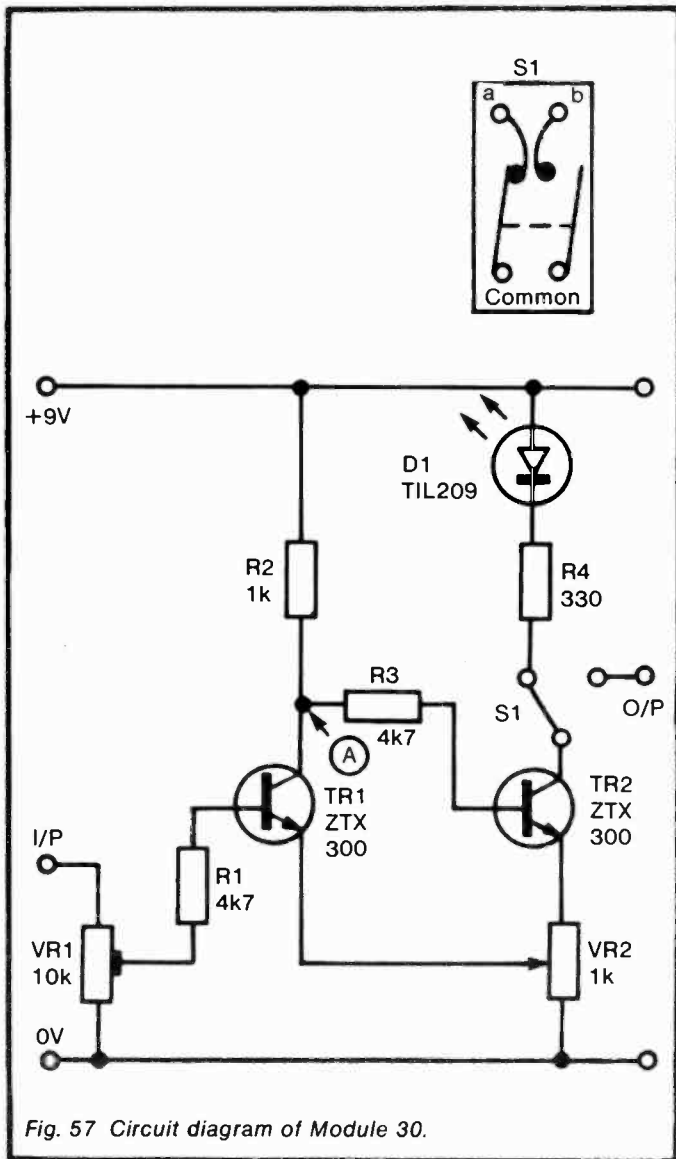

Fig. 57 Circuit diagram of Module 30.
**Circuit diagram:** see Figure 57.